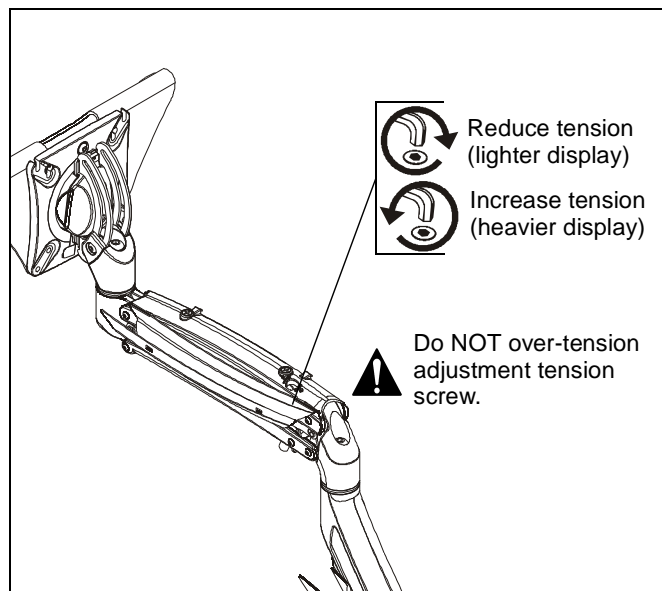

Figure 9
NOTE: Tension may also be adjusted with upper tension adjustment screw inside cable management cover and 1/8" hex key (H). (See Figure 9)